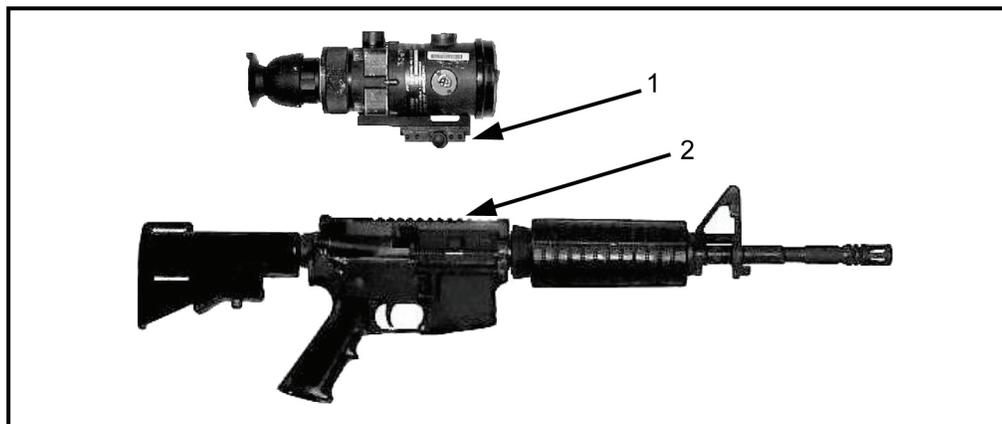

Figure 2-39. AN/PVS-4 on the M4/M4-MWS-series weapon.
b. **M4/M4-MWS-Series Weapons** (Figure 2-39). The Picatinny rail grabber with a mounting adapter (1) on the bottom of the AN/PVS-4 is aligned with a notch on the integrated rail (2) of the M4/M4-MWS-series weapons ensuring the AN/PVS-4 is positioned to accommodate an effective firing position once the eyecup is depressed. The AN/PVS-4 will not retain zero if the rail grabber extends beyond the end of the integrated rail when mounted.